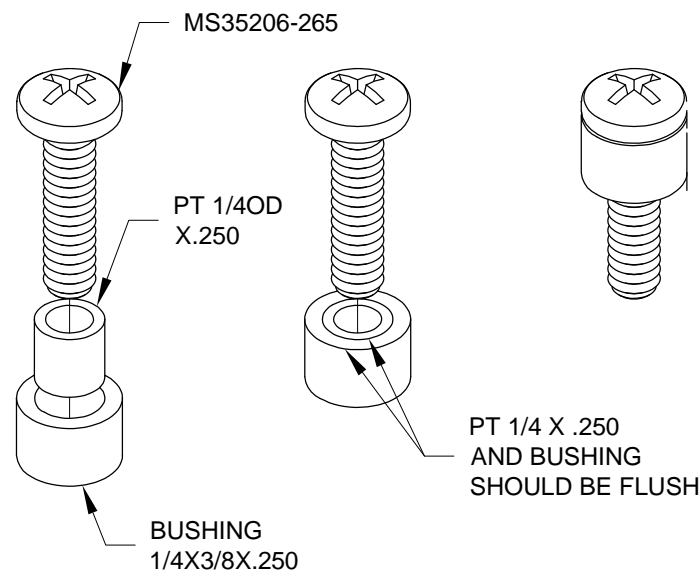

FIGURE 2: BUSHING AND SCREW ASSEMBLY
Step 3: Cut two 1/4 inch pieces from the PT 1/4OD X 2 clear tube and slip one piece inside each bushing as shown in Figure 2.
Step 4: Insert the screw into the plastic tube and bushing as shown in Figure 2. Take care that the plastic tube remains inside the bushing by setting the bushing and tubing on a flat surface and screwing the screw into place. Once the screw is well started the bushing may be held with a pair of pliers or a vise while completing the assembly. When finished the bushing and plastic insert will be in contact with the head of the screw as shown in Figure 2. Repeat for second screw and bushing.